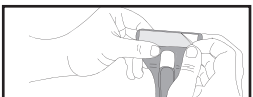

Figure 5.1; Remove Backing from Adhesive Strip to Attach it to Header
Now that you have determined the final position of the HORIZONTAL BLIND MOUNT ⑥, verify the header is clean and dry and that the tube of the blind mount is snapped into place on the E-Wand, then remove the backing on the adhesive strip [Fig. 5.1] and firmly press to attach it to the blind's header.